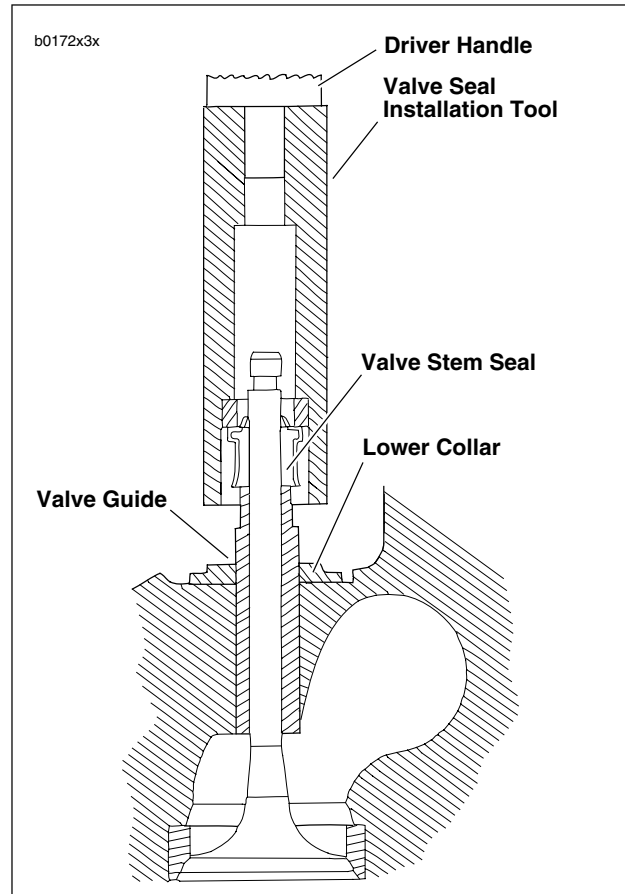

Figure 3-25. Valve Seal Installation
5. See Figure 3-25. Insert valve into valve guide and install lower collar.
7. See Figure 3-25. Tap the valve stem seal onto the valve guide using the VALVE SEAL INSTALLATION TOOL (Part No. HD-34643A) and DRIVER HANDLE (Part No. HD-34740). The seal is completely installed when the tool touches the lower collar.